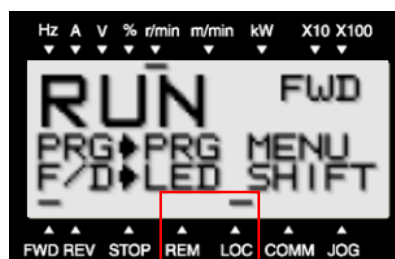

Figure 3. Inverter in **LOC** mode (local mode)
1. The inverter is in LOCAL mode as is shown in figure 3: